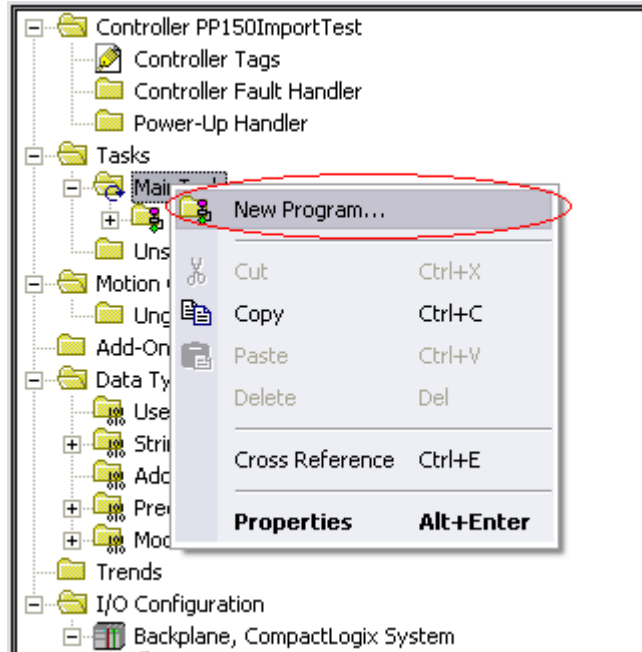

FIGURE 10.8
J. RIGHT CLICK ON YOUR MAINTASK FOLDER AND SELECT “NEW PROGRAM...” (FIGURE 10.8)